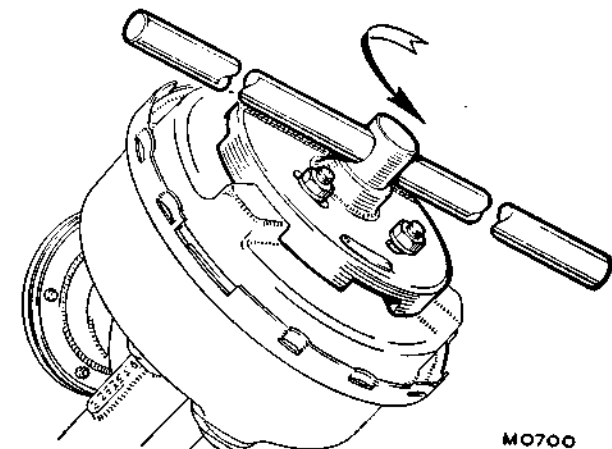

Fig. M.11
10. To remove the end cover from the servo shell, locate Service tool C2030\* over the three studs and secure tightly with suitable nuts (see Fig. M.11). Turn the removal tool anti-clockwise with a ½ in. (13 mm.) square drive socket 'T' bar as far as the stops on the cover will allow and lift off the cover.
20. Refit and secure Service tool C2030\* to the end cover (see Fig. M.11). Position the end cover with the shell so that the elbow will be in alignment with the air valve. Whilst maintaining a downward pressure on the cover, turn it clockwise as far as the stops will allow, taking care not to trap the edge of the rubber diaphragm. Remove the Service tool.